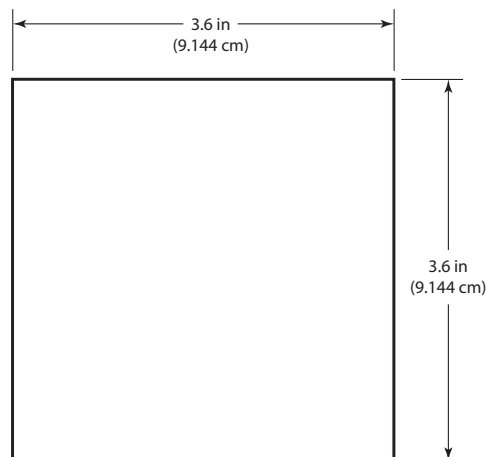

Figure 2: Panel cutout
1. Cut a 3.6 in.  $\times$  3.6 in. (9.144 cm  $\times$  9.144 cm) square opening in the panel. See *Figure 2*.